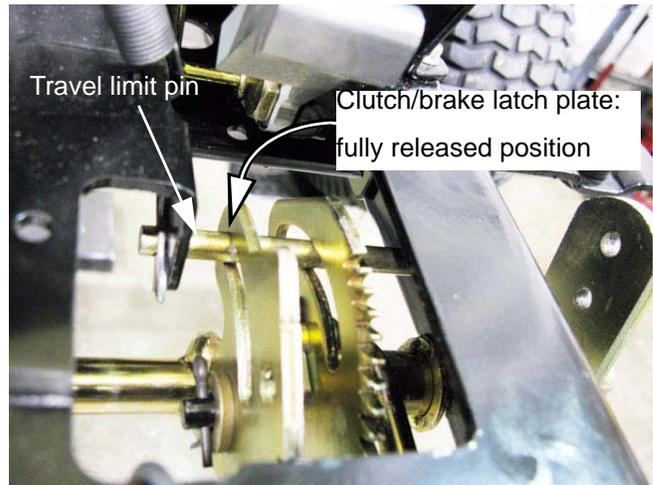

Figure 5.14
2. Visually inspect the linkage to confirm that it functions properly. See Figure 5.14.
- The travel limit pin should be resting against the front of the curved slot. See Figure 5.14.